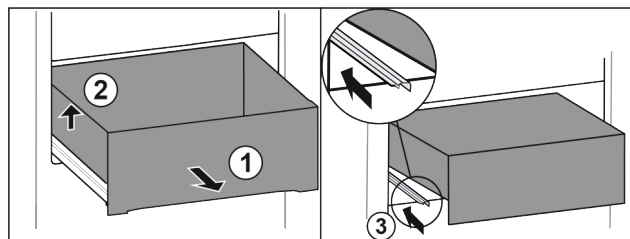

Fig. 14
- Pull drawer out completely Fig. 14 (1).
- Lift drawer on the left Fig. 14 (2).
- Insert left rail Fig. 14 (3).